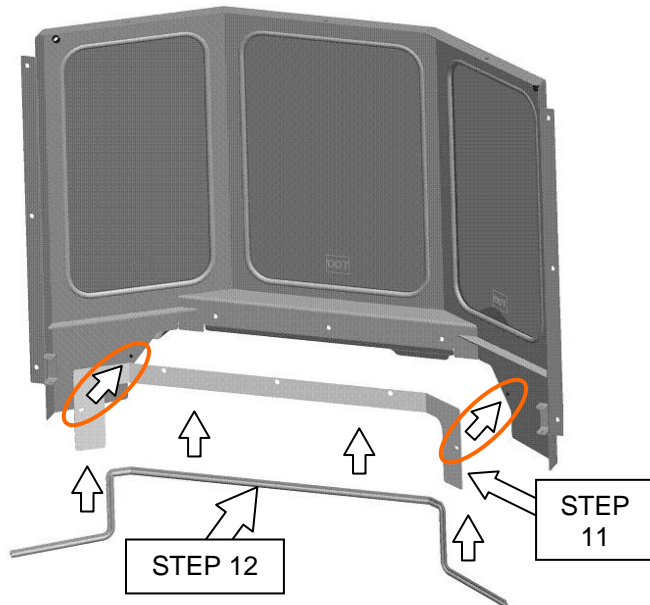

Figure 7
11. Attach "I" type seal panel to bottom of rear window assembly and secure using (2) $\frac{1}{4}$ " x .625" long bolts and (2) $\frac{1}{4}$ " flange nuts, as shown in Figure 7.
12. Attach (1) 59" long bubble rubber seal to bottom of rear seal panel, as shown in Figure 7.